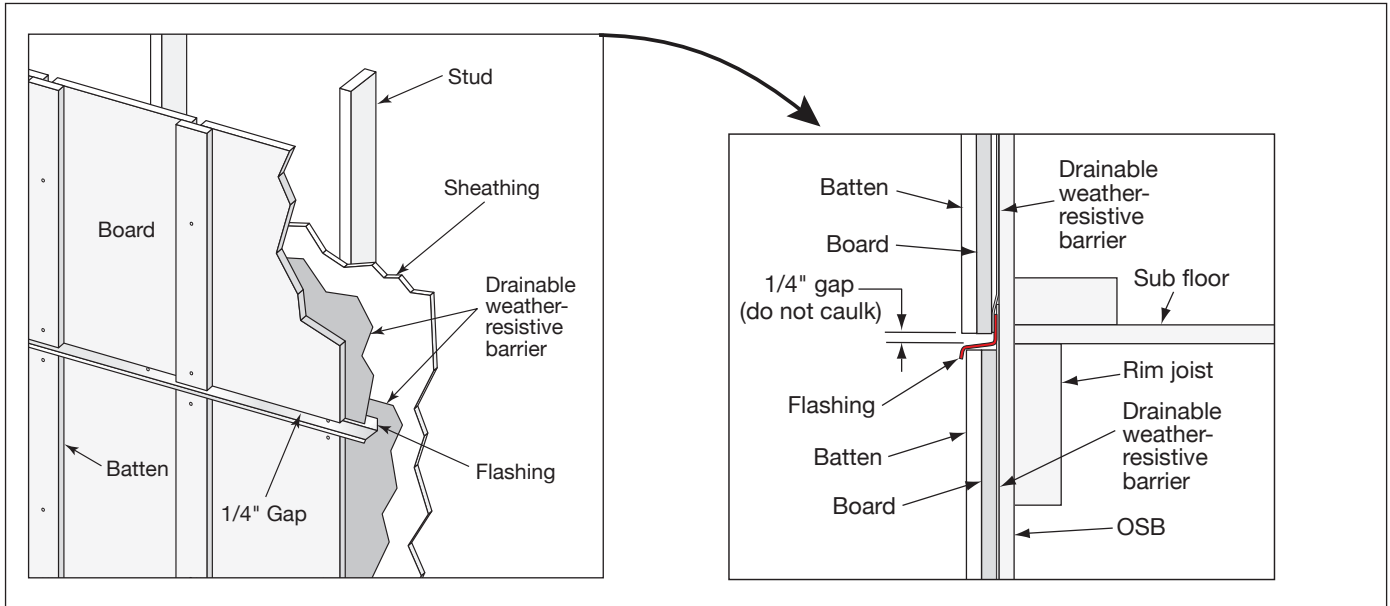

Fig. 44
- Use a piece of z-flashing tucked under the drainable weather-resistant barrier that extends to the front face of your trim (Fig. 44)
- Battens must be installed according to option 1 or 2 below (Fig. 44 & 45)